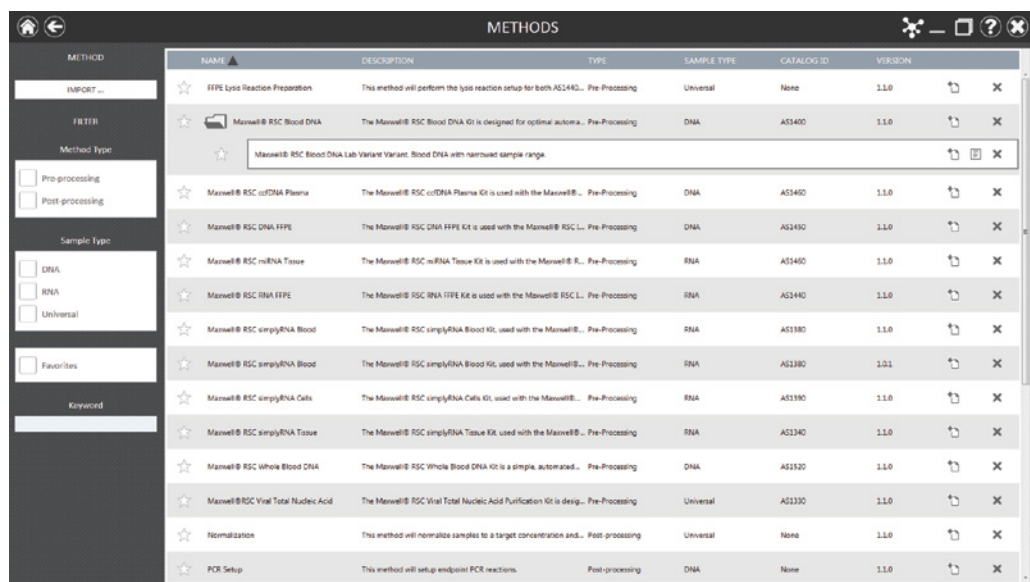

Figure 17. Appearance of variant methods. Administrator 'Methods' screen showing an expanded method folder with a variant method.
6. Once all changes have been applied, select the **OK** button to save the variant method. New variant methods will be added to the list of variant methods in the folder (Figure 17).